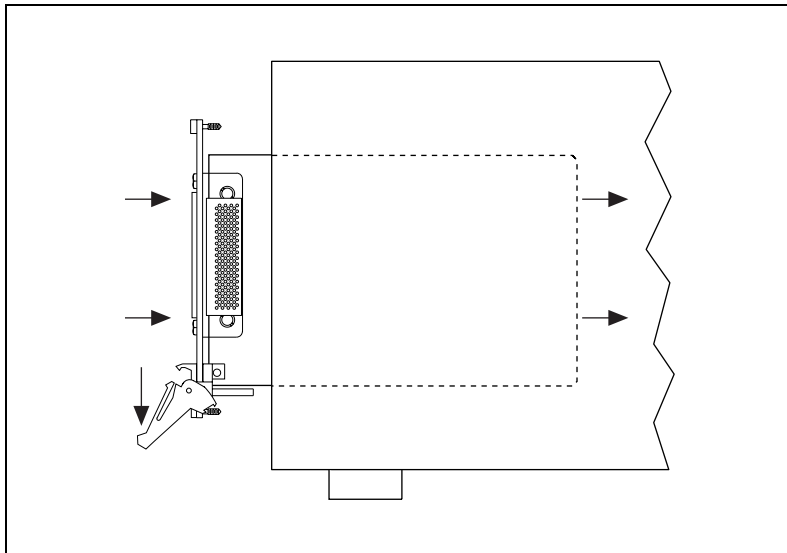

Figure 2-3. Injector/Ejector Handle Position during Module Insertion
2. Slide the module to the rear of the chassis, making sure that the injector/ejector handle is pushed down as shown in Figure 2-3.